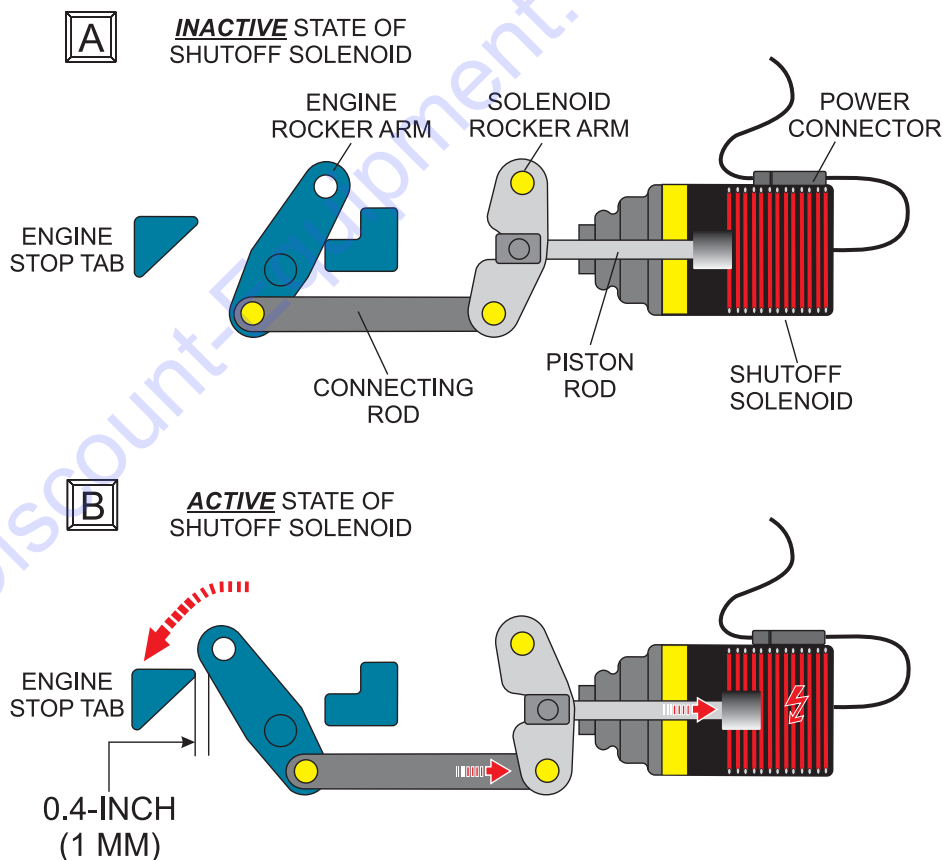

Figure 1. Shutoff Solenoid Active State
1. Lift engine hood and locate engine shutoff solenoid (Figure 1).